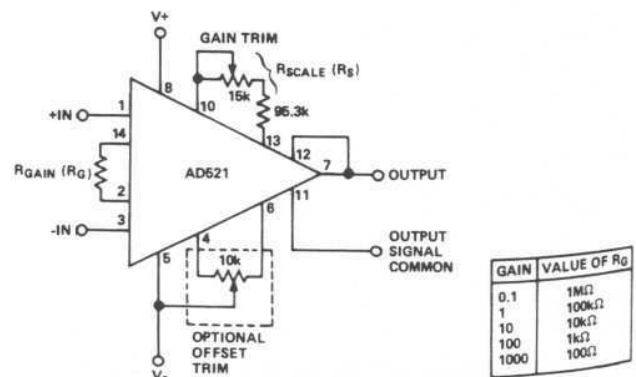

Figure 2. Operating Connections for AD521
1. Gains below 1 are realized by adjusting the gain setting resistors as shown in Figure 2 (the resistor, R_S between pins 10 and 13 should remain $100k\Omega \pm 15\%$, see application note 3). For best results, the input voltage should be restricted to $\pm 10V$ even though the gain may be less than 1. See Figure 6 for gains above 1000.
3. The resistors between pins 10 and 13, (R_{SCALE}) must equal $100k\Omega \pm 15\%$ (Figure 2). If R_{SCALE} is too low (below $85k\Omega$) the output swing of the AD521 is reduced. At values below $80k\Omega$ and above $120k\Omega$ the stability of the AD521 may be impaired.
The offset trim adjustment (pins 11 and 12, Figure 2) is associated primarily with the output offset. This trim can be used to introduce an output offset equal and opposite to the input offset voltage multiplied by the gain. As a result, the total output offset can be reduced to zero.